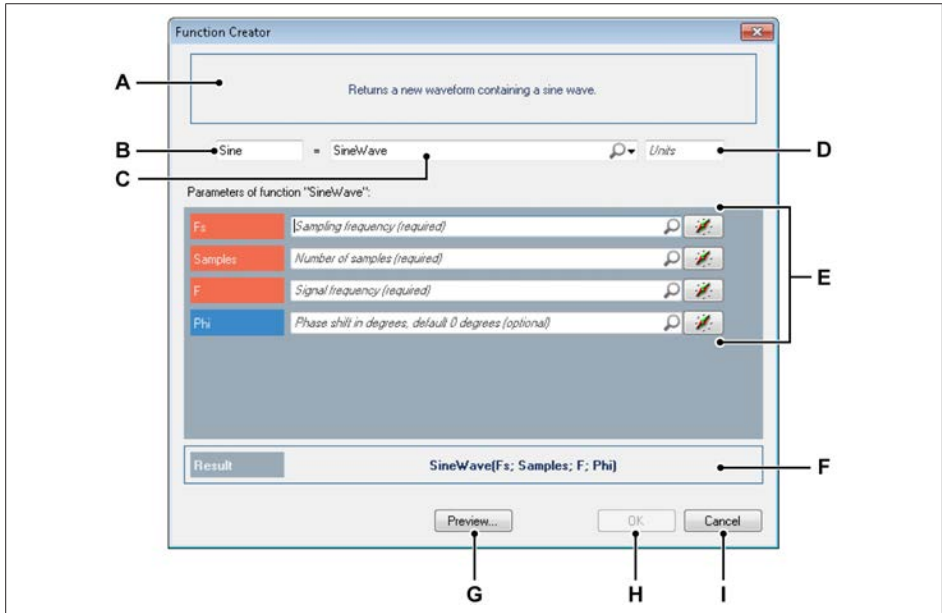

Fig. 1.7 Function Creator dialog
- 1 Calls on the function creator (see Fig. 1.7)